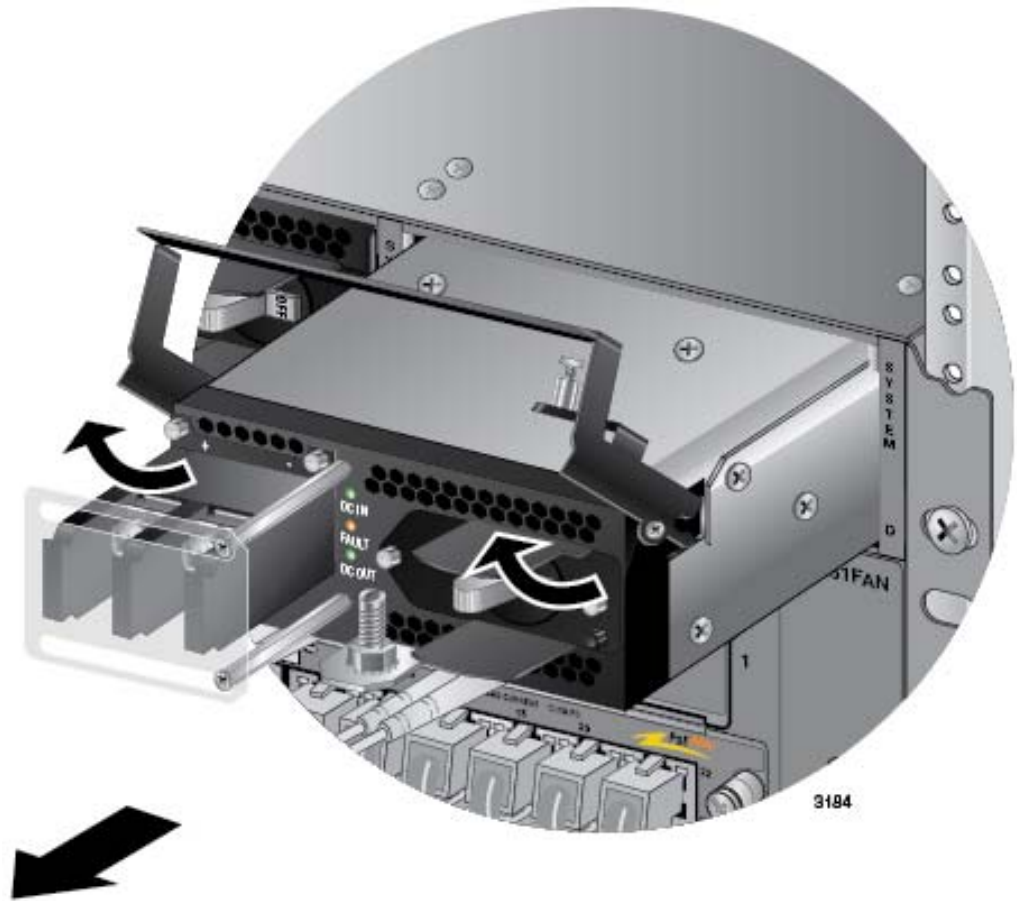

Figure 167. Lifting the Locking Handle and Removing the Power Supply
11. Lift the locking handle and slide the power supply from the chassis. Refer to Figure 167 on page 269.